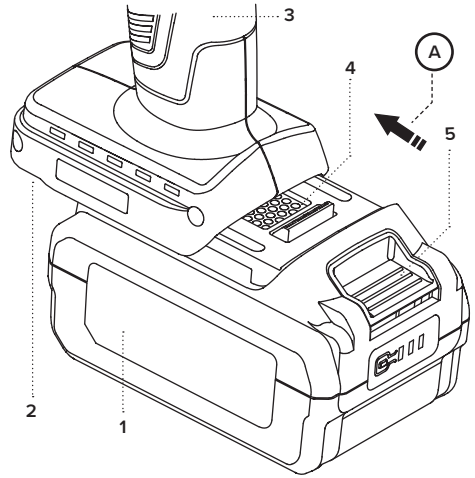

Fig. 1A: 1. Battery 2. Terminal slot 3. Main handle 4. Terminal profile 5. Lock button.
To install the battery (*Fig. 1A*), align the terminal profile (4) on the battery (1) with the terminal slot (2) in the tool housing and slide it into place. Slide it all the way until it locks in place with a click. If the battery can be easily pulled out without pressing the lock button (5) after it is inserted, it means that the battery is not completely locked.